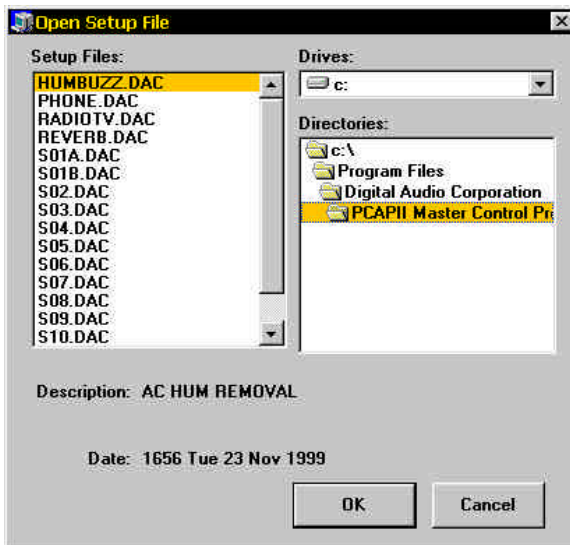

Figure 4-62 Open Setup File Window
1. Click on **File** on the Master Control menu bar. When the pulldown menu appears, click on **Open Setup File**. This will cause the following window (Figure 4-62) to appear: